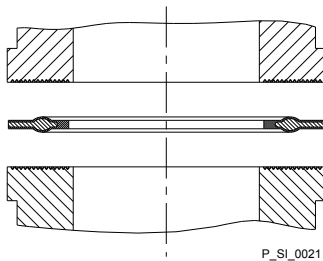

Fig. 15: Moulded composite seals with corrugated insert
- The pump is supplied with PTFE moulded composite seals with a flare, which are used for the pump connections. They seal the connections between grooved pump valves and the grooved inserts from ProMinent - see Fig. 15.